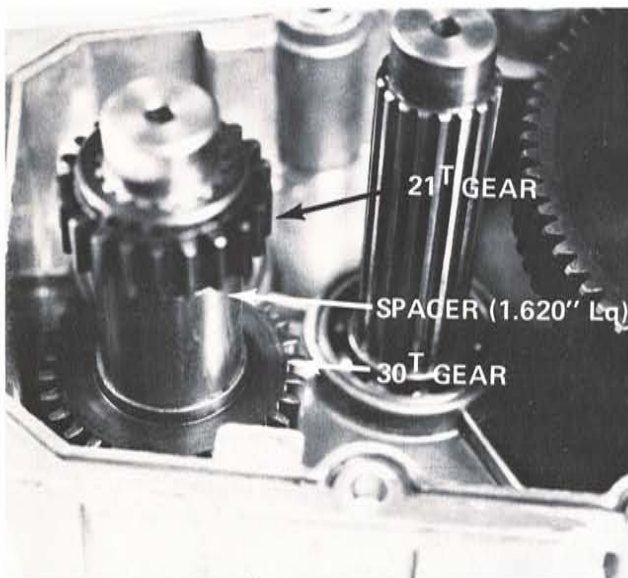
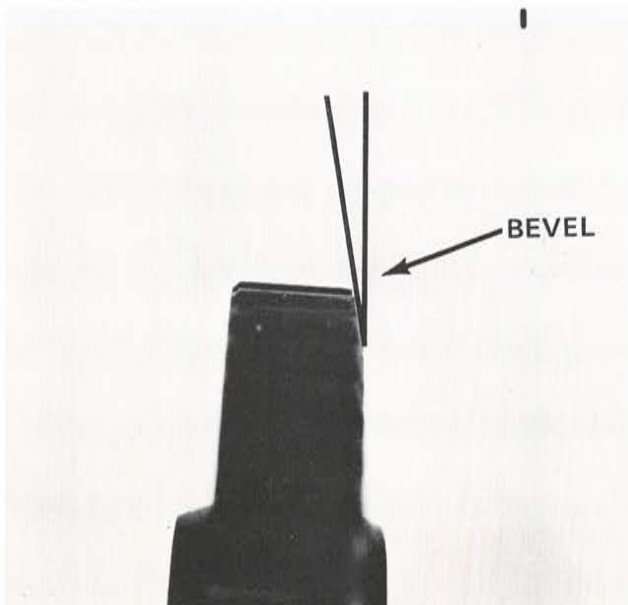

Fig 20
Fig 21
7. Install 30 tooth gear, spacer (1.620" lg) and 21 tooth gear on rear transmission shaft. (Fig 20) Insure that bevel on 30 tooth gear is up, for proper engagement with transfer gear. (Fig 21)